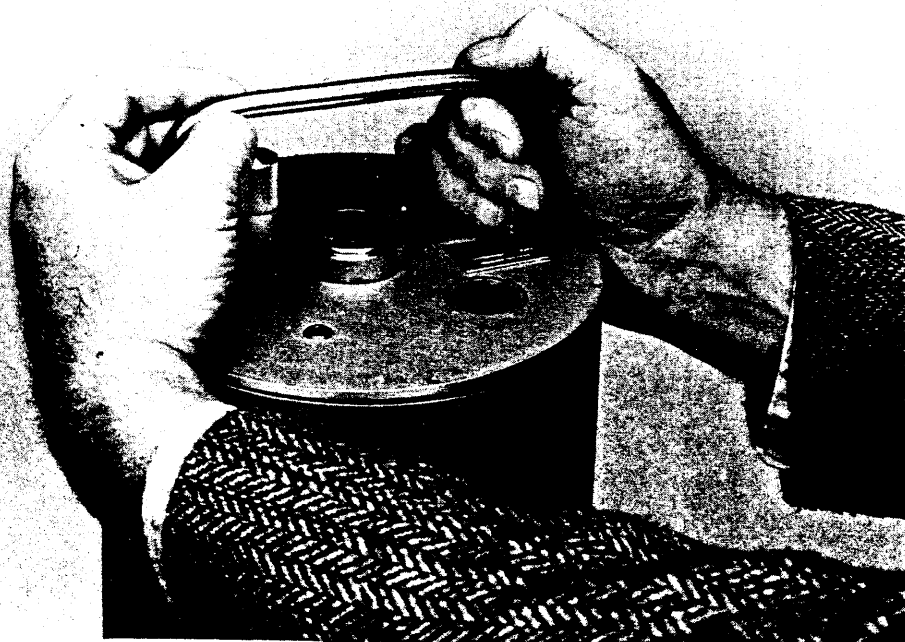

Figure 3-4b. Cover Removal
- c. CAREFULLY pull up with a controlled pull on the handle to remove the top cover plate (figure 3-4b). There is an O-ring seal around the outer edge of the cover and the cover will suddenly pull loose if care is not taken. Caution should be taken to ensure that the connector does not catch in the cover and damage the internal wires